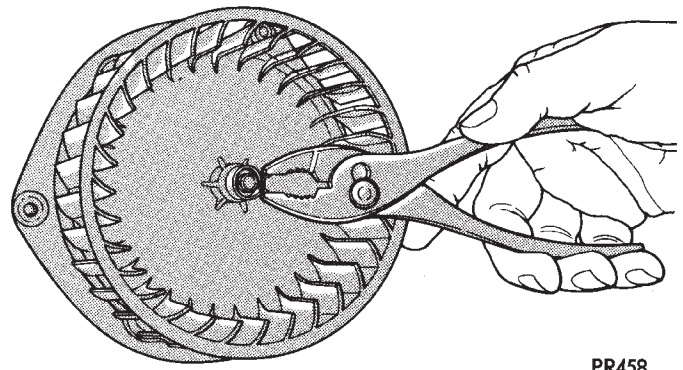

Fig. 4 Blower Wheel Retaining Ring Removal and Installation
(1) Remove blower motor from vehicle.
(2) Remove the spring type retaining ring from the center of the blower wheel (Fig. 4). Note the location of the blower wheel on the blower motor shaft.
(3) Remove blower wheel from blower motor shaft.